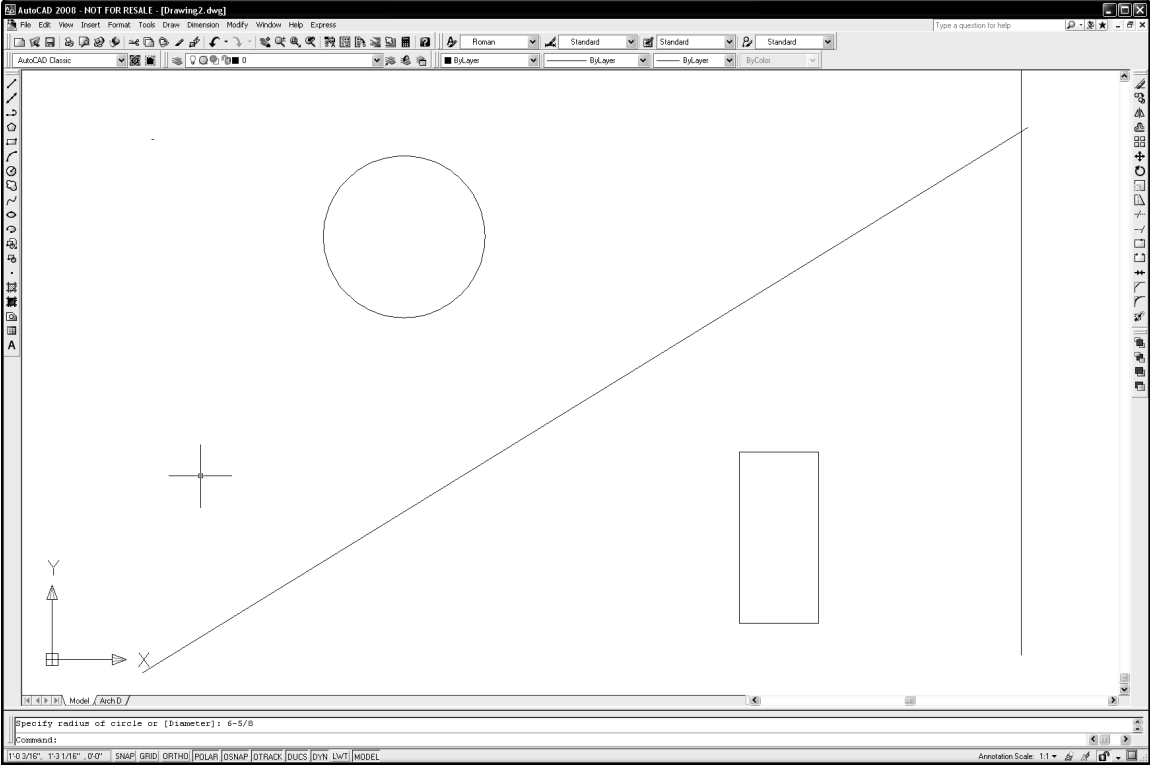

Figure 2-1.14 Drawing with Circle added
33. Type **6-5/8** and then press **Enter** (this equals 6 5/8"). (See Figure 2-1.14 on the next page.)